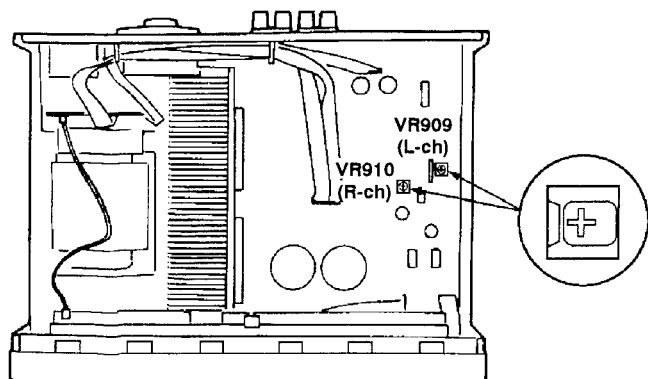

Fig. 2
- Before turning **ON** the set, adjust **VR909 (L-ch)** and **VR910 (R-ch)** to mechanical center position (shown in Fig. 2).